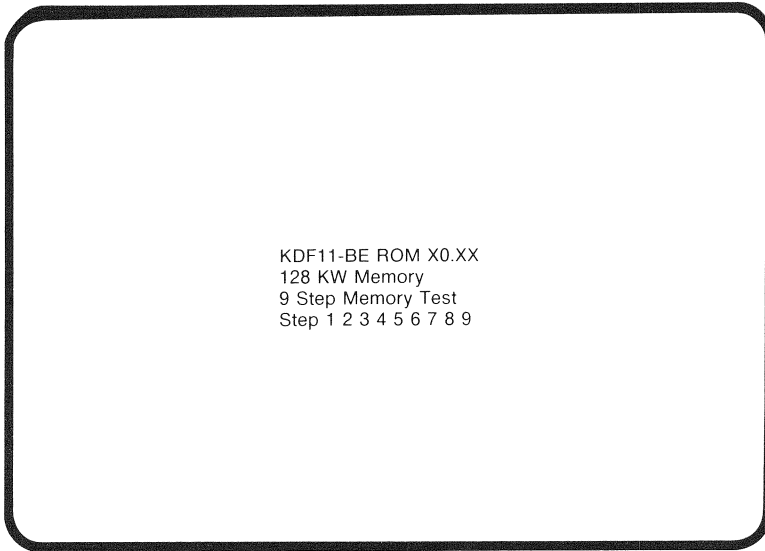

Figure 1-5 KDF11-BE or BF Startup Message
- The KDF11-BF CPU displays a “9 Step Memory Test” message (Figure 1-5).